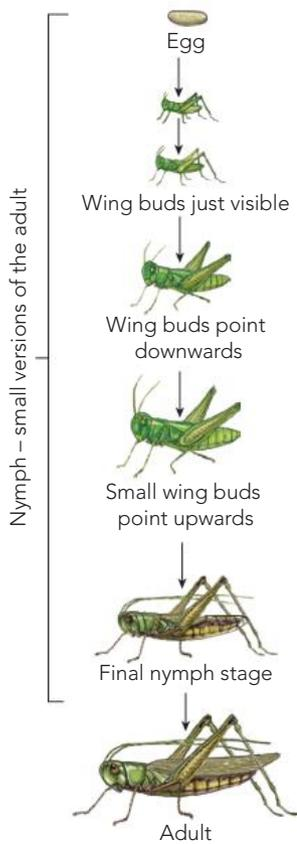

Figure 26.8 Insect lifecycle nymph type (e.g. grasshopper)
- 2 Nymph-type insects that basically follow the lifecycle illustrated in Figure 26.8 (e.g. aphids, locusts). Wings are present, attached externally to the thorax. The young resemble the adult, and insects undergo **incomplete metamorphosis**; that is, there is little change in body form as the insect goes through the different stages.